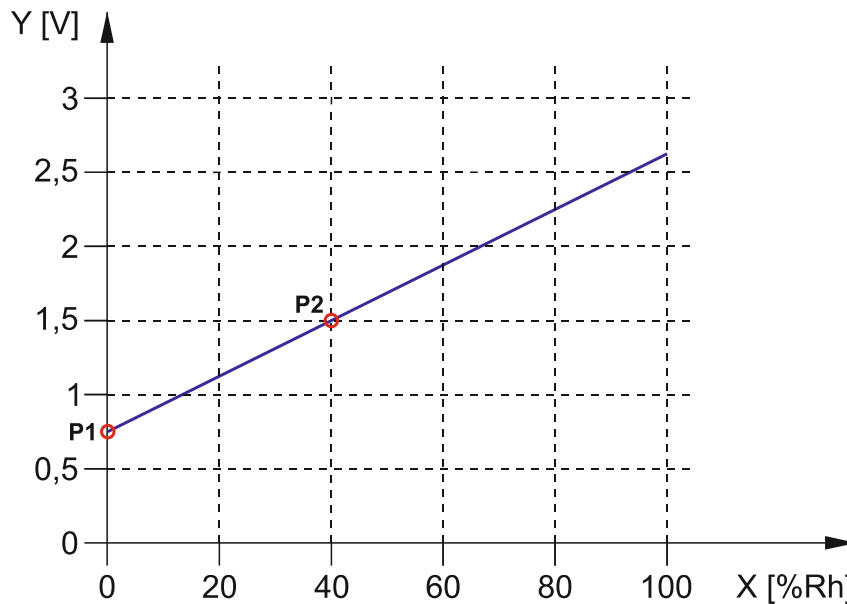

Fig. 22. Example of the linear characteristic of air humidity sensor.
You can define how the voltage value on analog input will be scaled to the physical quantity that is recorded by the sensor connected to the input. Use the linear characteristic from the sensor installation manual. This characteristic illustrates dependence between the sensor output voltage and the physical quantity recorded by the sensor (see Fig. 22).
**Sensor characteristic** – enter the voltage value and the corresponding value of the physical quantity for two points on the linear characteristic of the sensor (see the example in Fig. 22, where P1: 0.75 V -> 0% Rh and P2: 1.5 V -> 40% Rh).